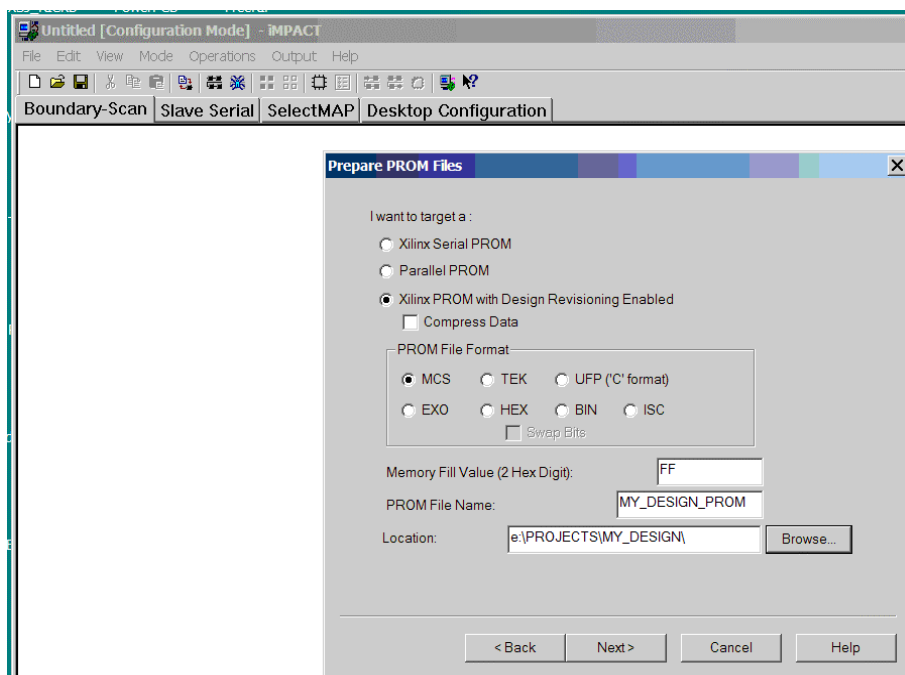

Figure B-3: Selecting a PROM with Design Revisioning Enabled
4. Give the PROM File a name of your choice in the location of your choice as shown in Figure B-3.